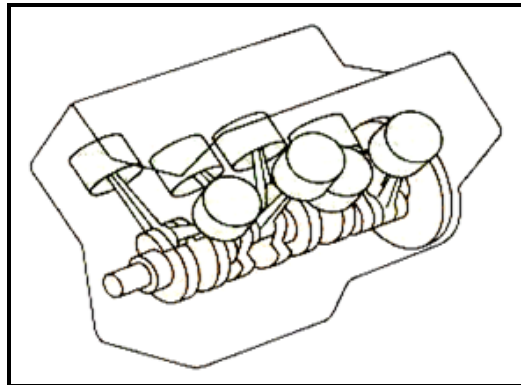

FIGURE 6.2.1
6.2 Identify the cylinder layouts as illustrated in FIGURES 6.2.1 and 6.2.2 below.